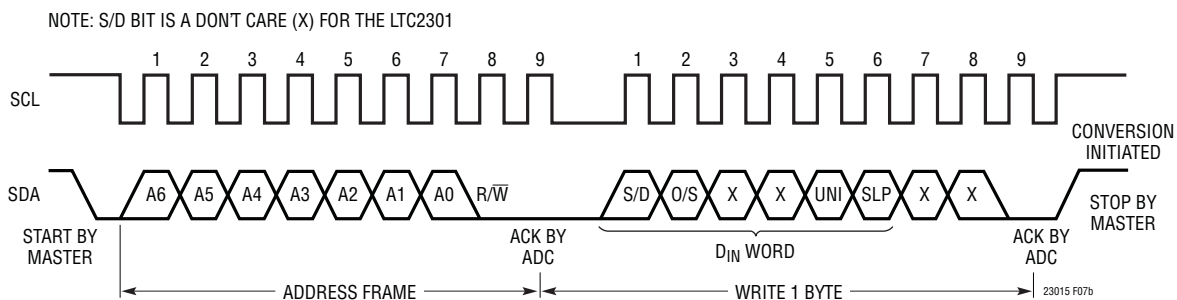

Figure 7b. Timing Diagram for Writing to the LTC2301/LTC2305
The software compatible LTC2301/LTC2305/LTC2309 family features a 6-bit DIN word to program various modes of operation. Don't care bits (X) are ignored. The SDA data bits are loaded on the rising edge of SCL during a write operation, with the S/D bit loaded on the first rising edge and the SLP bit on the sixth rising edge (see Figure 7b in the I2C Interface section). The input data word for the LTC2305 is defined as follows:
When the LTC2301/LTC2305 is addressed for a write operation, it acknowledges by pulling SDA LOW during the LOW period before the 9th cycle and acts as a receiver. The master/transmitter can then send 1 byte to program the device. The input byte consists of the 6-bit  $D_{IN}$  word followed by two bits that are ignored by the ADC and are considered don't cares (X) (see Figure 7b). The input bits are latched on the rising edge of SCL during the write operation.